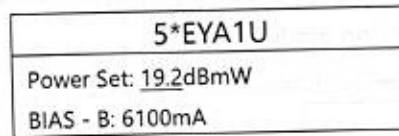

Figure 6.2.13
- (3) Setting for the output power and multi-mode pump working current parameters. Under the 6.2.12 interface, press the \blacktriangledown key, the "" will follow down, showing that the interface is like figure 6.2.13, the 3-3, 3-4 can be set according to the operation steps of 6.2.4 (2). 3-3 steps into the 0.1dBm, the 3-4 step into the 10mA.